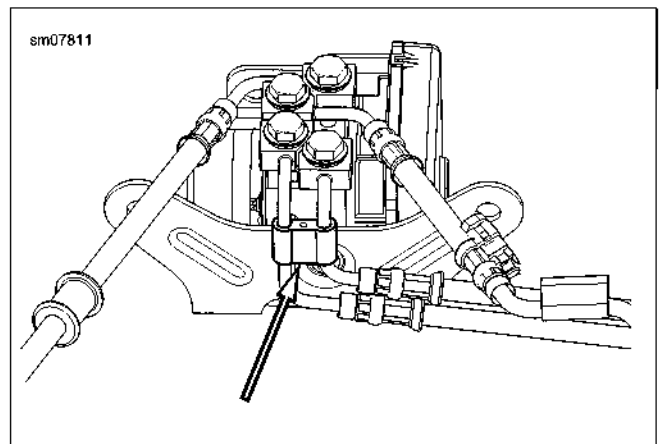

Figure C-6. Brake Line Clip
- See Figure C-6. Install clip over MC2 and MC1 brake lines.